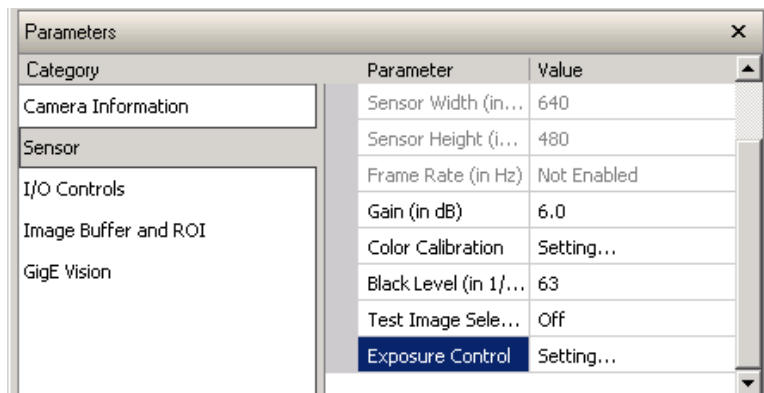

Figure 38. Sensor Tab
1. Click on the “Sensor” tab and scroll down if necessary (Figure 38).
1. Click on the “Sensor” tab (Figure 38).